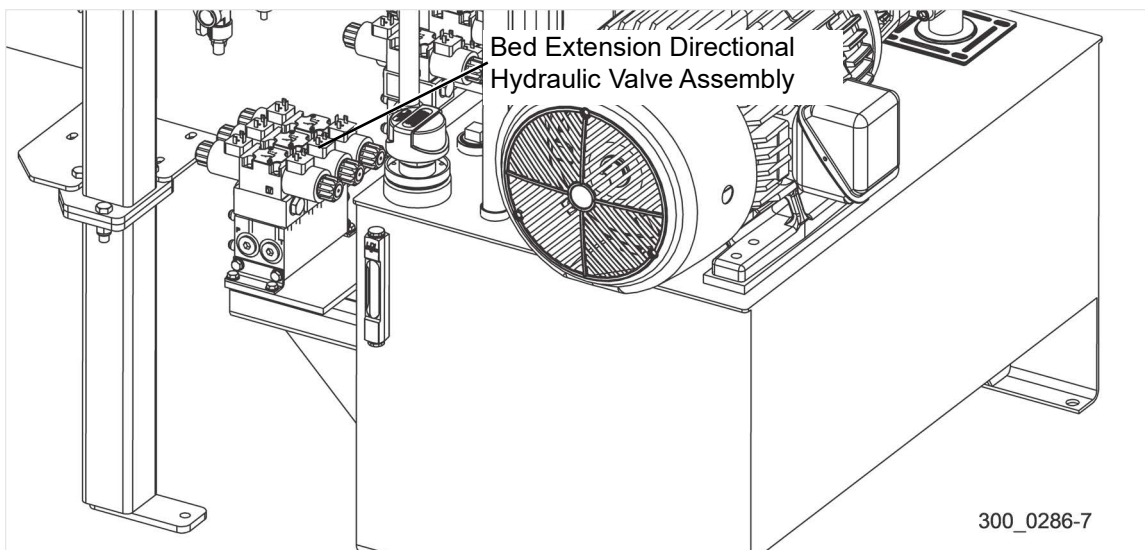

FIG. 3-31
1. Install a 1/2" NPT quick disconnect fitting to the fitting supplied in the air valve at the rear of the operator station. See Fig. 3-31.